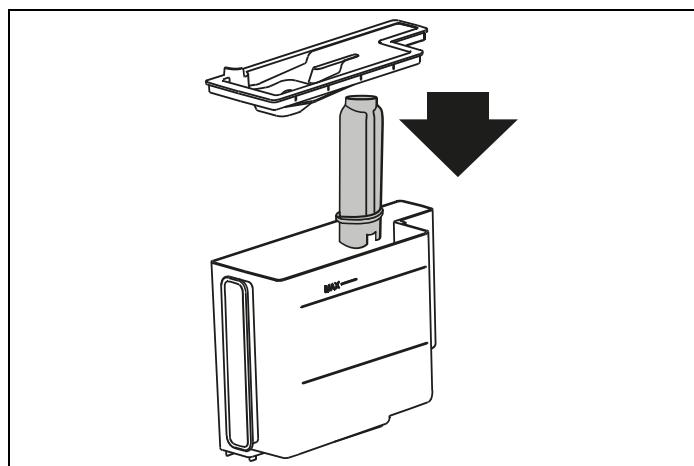

Fig. 58
- 5) (If the filter is installed) **Insert filter into its housing** (Fig. 58). Press \triangleright NEXT and extract the water tank, reinsert the water softener filter if removed previously;
- 4) **Insert filter into its housing and push it down to the bottom**: Insert the filter in the filter housing (Fig. 58) and press as far as it will go. Press  **NEXT**;